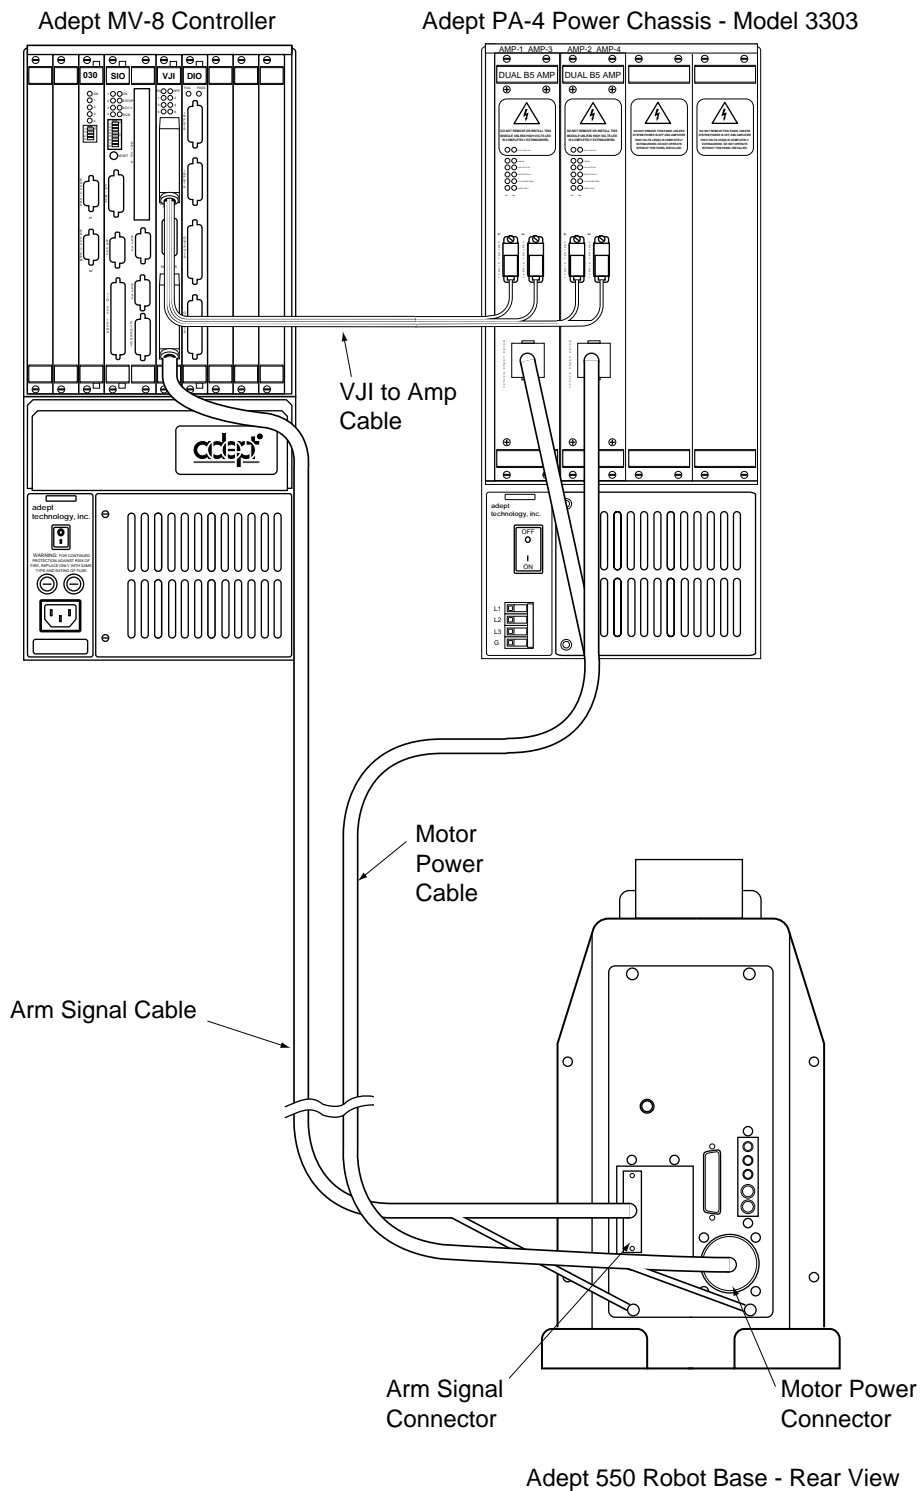
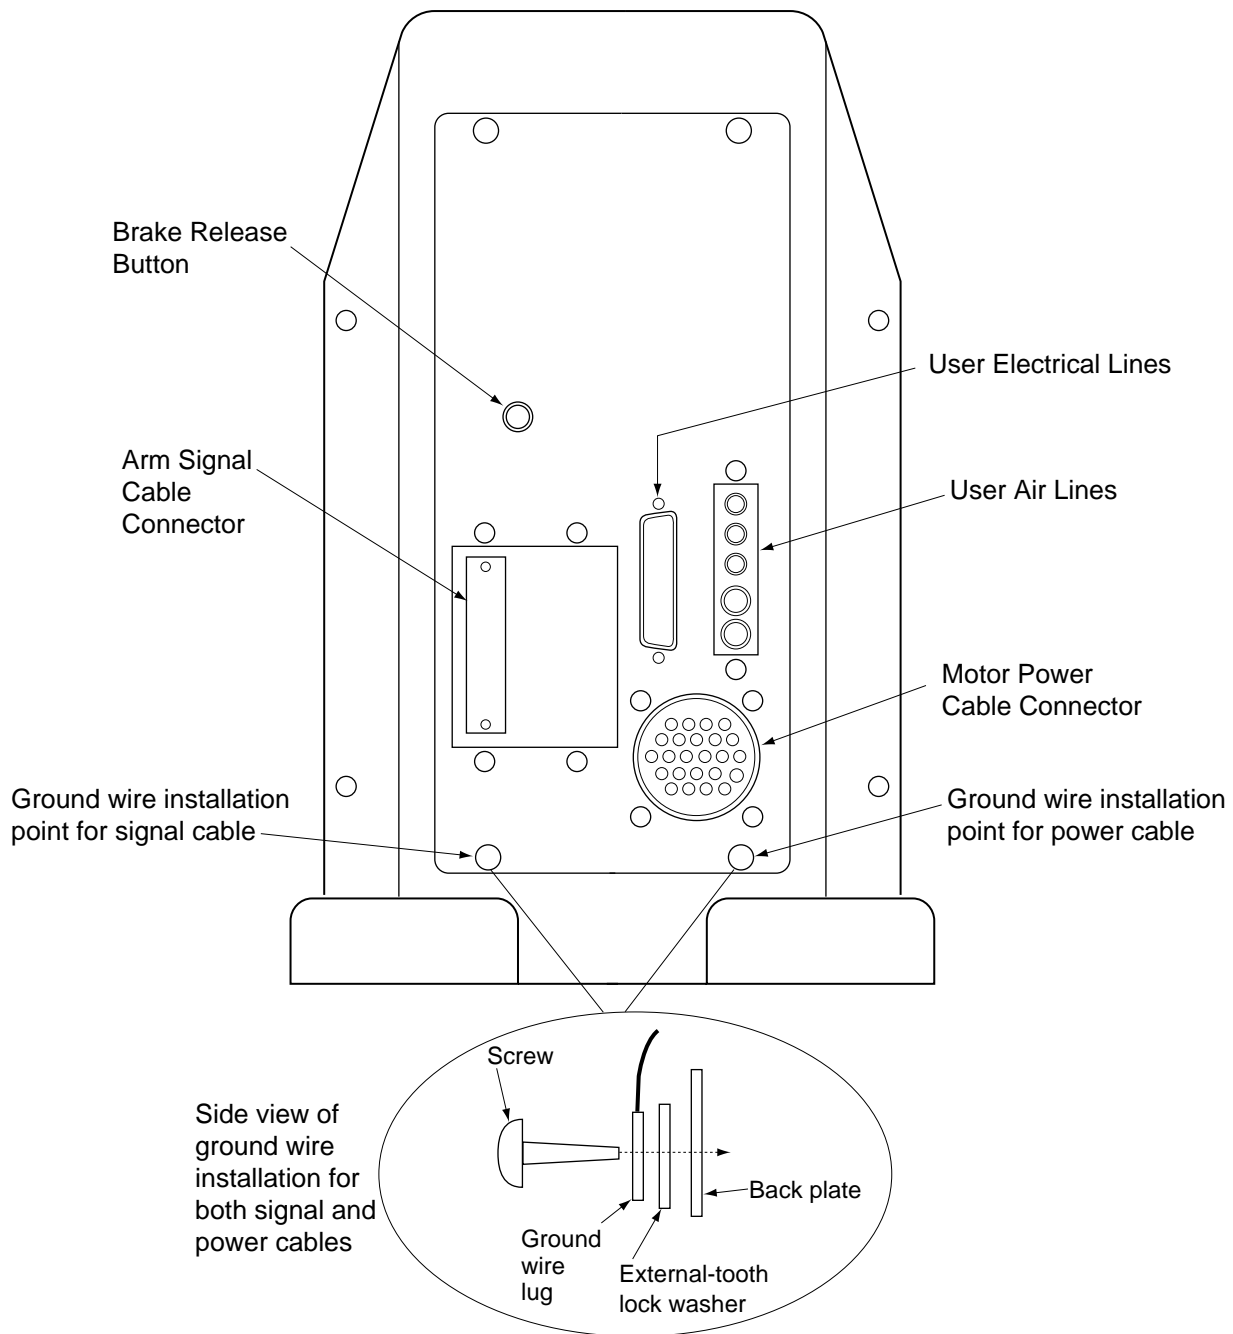

Figure 5-5. Adept 550 System Cable Installation
Figure 5-6. Adept 550 Robot Back Plate and Ground Connections
1. Connect the circular end of the motor power cable to the matching connector on the back plate of the robot. Tighten firmly by hand only. See Figure 5-5 and Figure 5-6.
- b. Place the external-tooth lock washer against the back plate over the empty hole, then place the ground wire lug over the washer. See Figure 5-6.
1. Connect the cable end with the ground wire to the matching Signal connector on the back plate of the robot. Pull gently on the connector body to ensure it is securely latched. See Figure 5-6. (If you need to remove this connector later, there is a release button on the underside of the cable connector.)
Under some circumstances you may want to manually position Joint 3 without turning on High Power. For such instances, a brake-release button is located on the robot backplate (see Figure 5-6). When system power is on, pressing the button releases the brake, which allows movement of Joint 3.